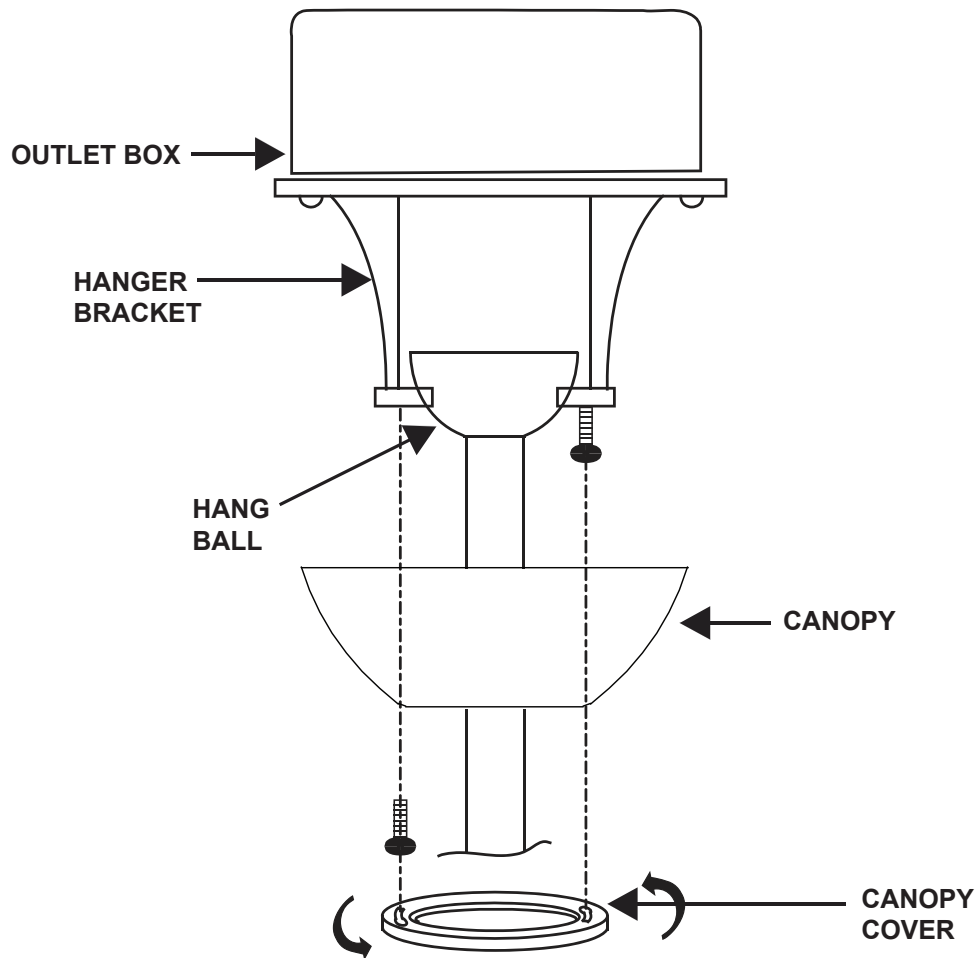

FIG. 14
Step 1. Remove 1 of the 2 screws from the bottom of the hanger bracket and loosen the other one half a turn from the screw head. (Fig. 14)